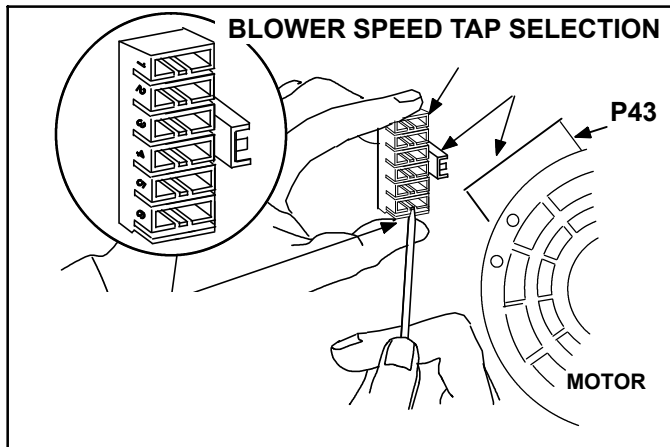

FIGURE 10
- 6- Depress harness connector tab to release wire terminal (J43). Select connector location for new speed (refer to unit wiring diagram). Insert wire terminal until it is securely in place. See figure 10.